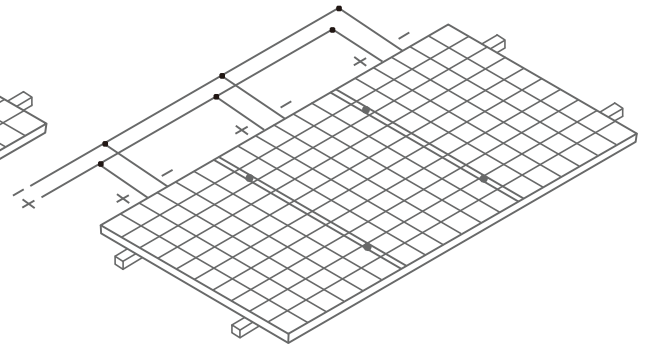

Figure 5 Connection in parallel
- When connected in parallel, the current output is equal to the sum of each string's current (as shown in Figure 5). Fuse is necessary for each module string. Take reference to the local regulation. Recommended maximum parallel Modules configurations: Fuse rating/ (1.25\* short-circuit current).